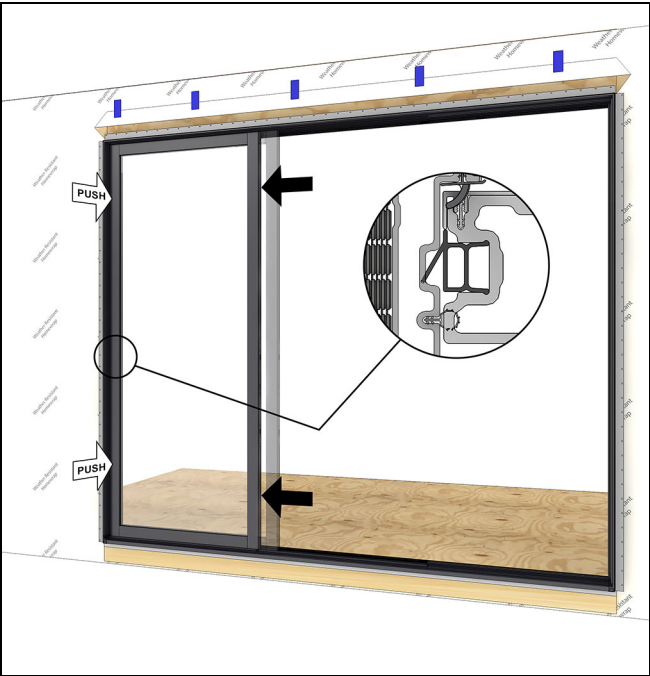

Figure 100
2. Slide the panel over to the jamb. Press on the stile to make sure the panel retainer is still engaged. See Figure 100.